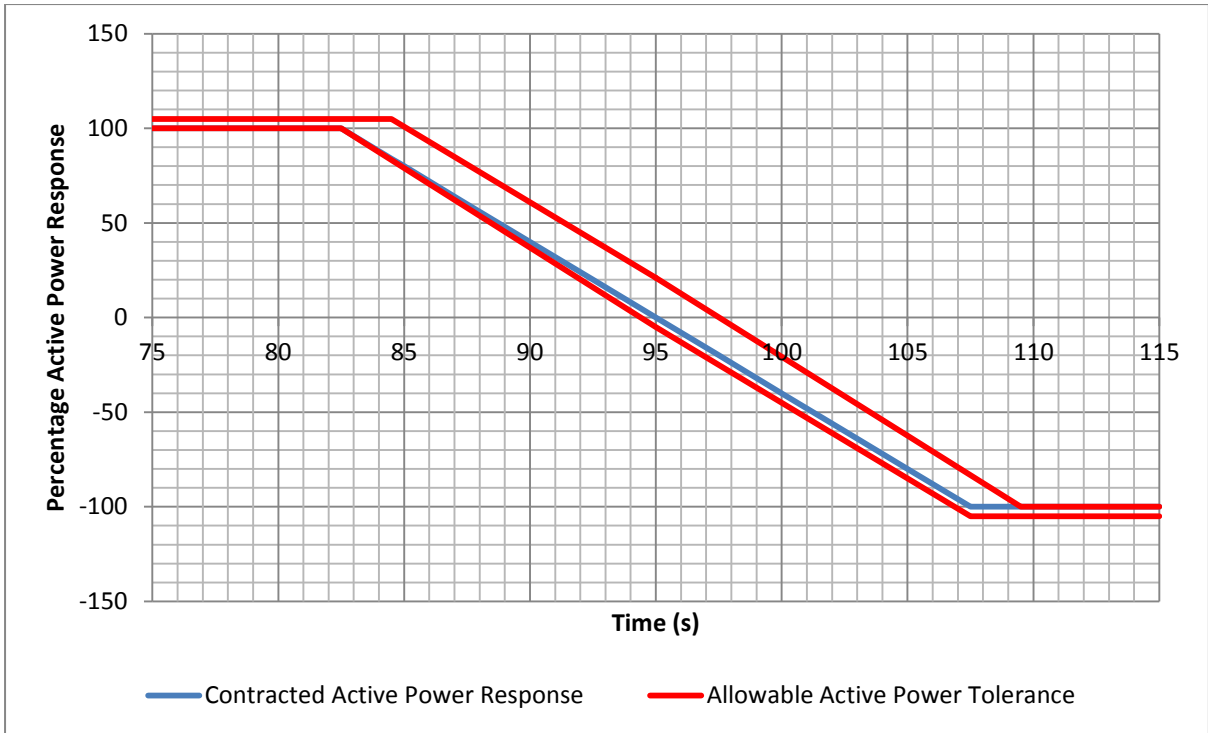

Figure 3.8 - Negative Active Power Gradient Tolerance Band
- Active power is consistent with the contracted values within the tolerances given in Tables 3.7 and 3.8 which are shown graphically in Figures 3.8, 3.9, 3.10 and 3.11.